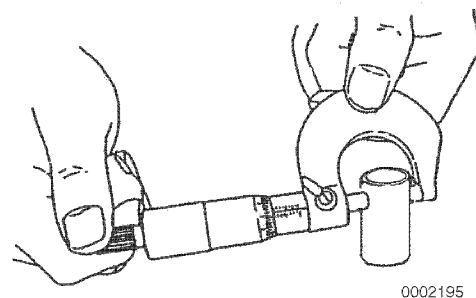

Figure 6-73
2. Measure the outside diameter of the tappet stem (**Figure 6-73, (1)**). Record the measurements. See *Tappet* on page 6-13 for the service limit.